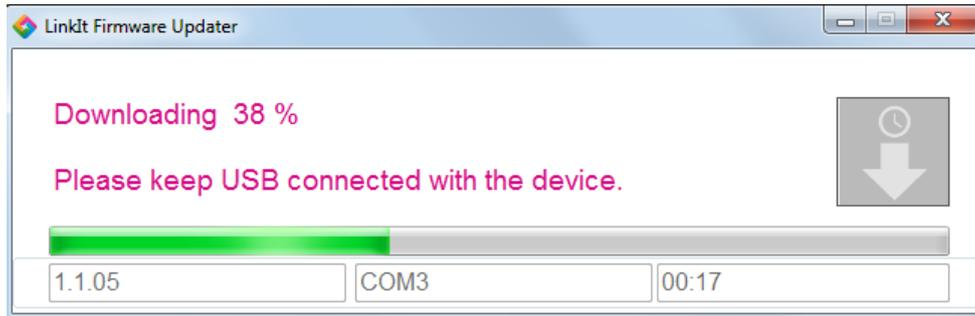

Figure 25 The board's firmware is being downloaded
- 5) Once LinkIt ONE is reconnected the firmware update will start automatically. LinkIt ONE Firmware Updater will report that the firmware is being downloaded, as shown in Figure 25.